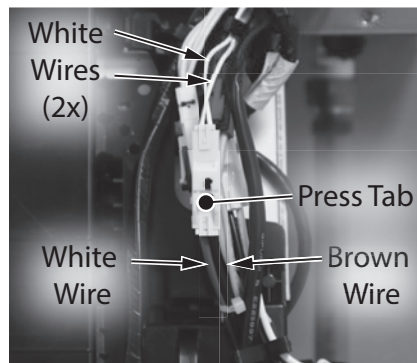

Figure 43 - Disconnect thermostat wiring
6 With control board panel lowered, locate the freeze protection thermostat wire connection (white) as shown in Figure 43. Press tab on connector and disconnect wires. Wires leading to control board are white and brown. Wires leading to thermostat are both white.
- 10** Connect freeze protection thermostat to wiring cluster located at the control board panel as shown in Figure 43. Confirm wiring is snug inside plastic organizer.